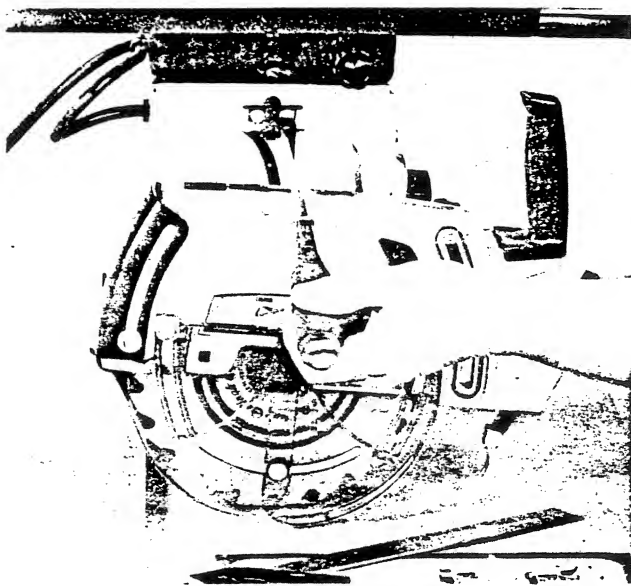

Fig. A9
2. Loosen the (2) screws which hold the locator pin assembly several turns (Fig. A9).